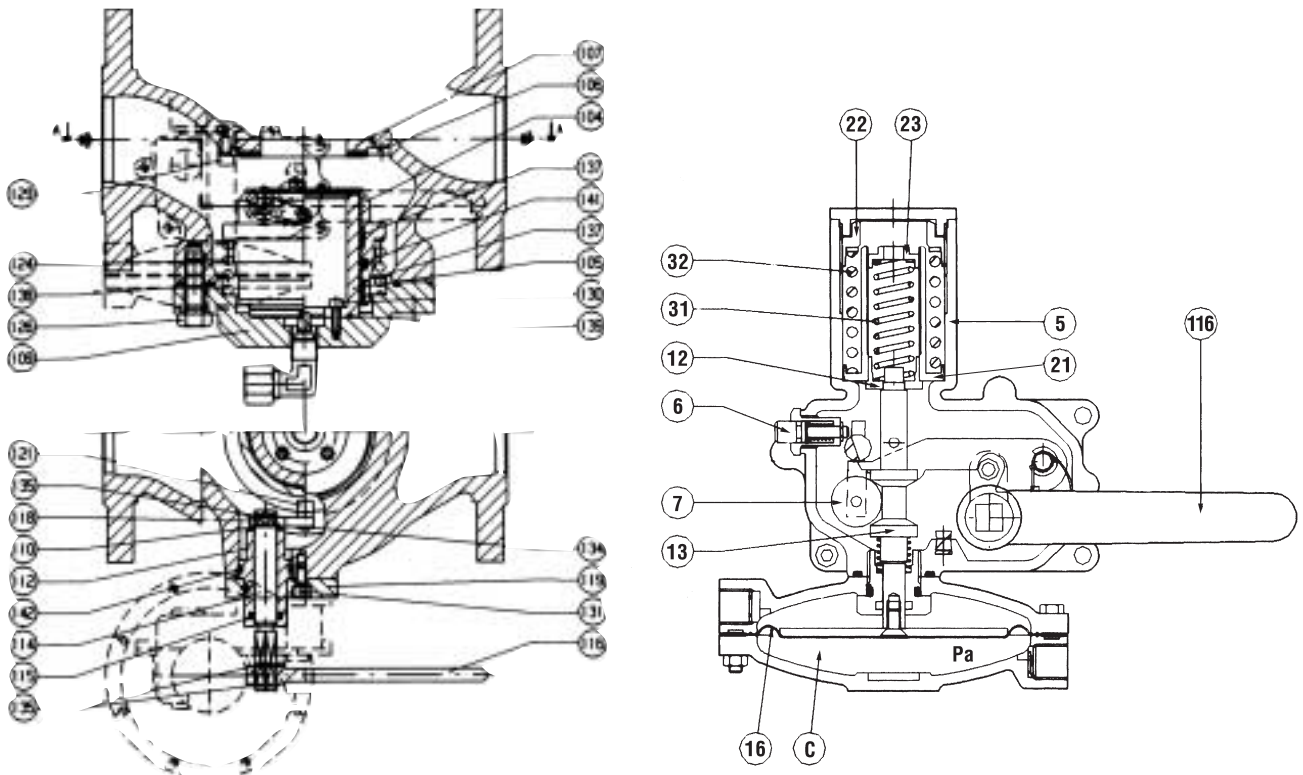

Fig. 10b
- a VB 31/32/33 pressure switch device (fig. 10b) whose internal motion determines the open or closed position of the obturator 104.